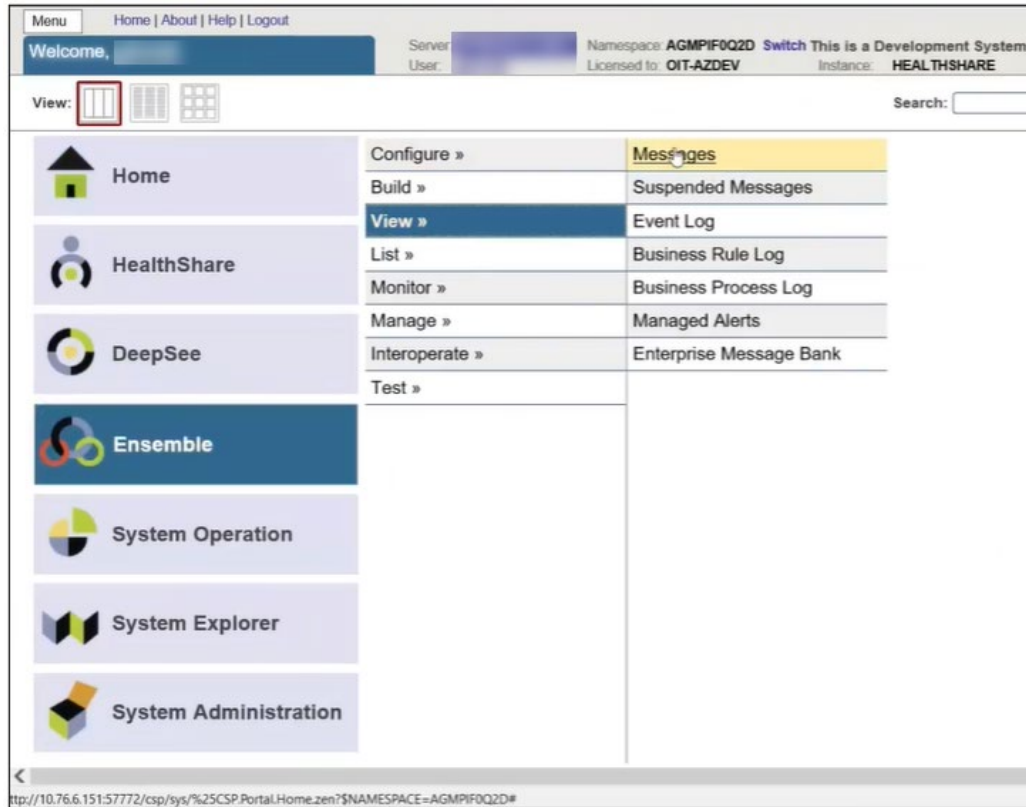

Figure 5-1: Ensemble – view all production messages
1. After clicking on **Ensemble**, click on **View**, then **Messages** (Figure 5-1).